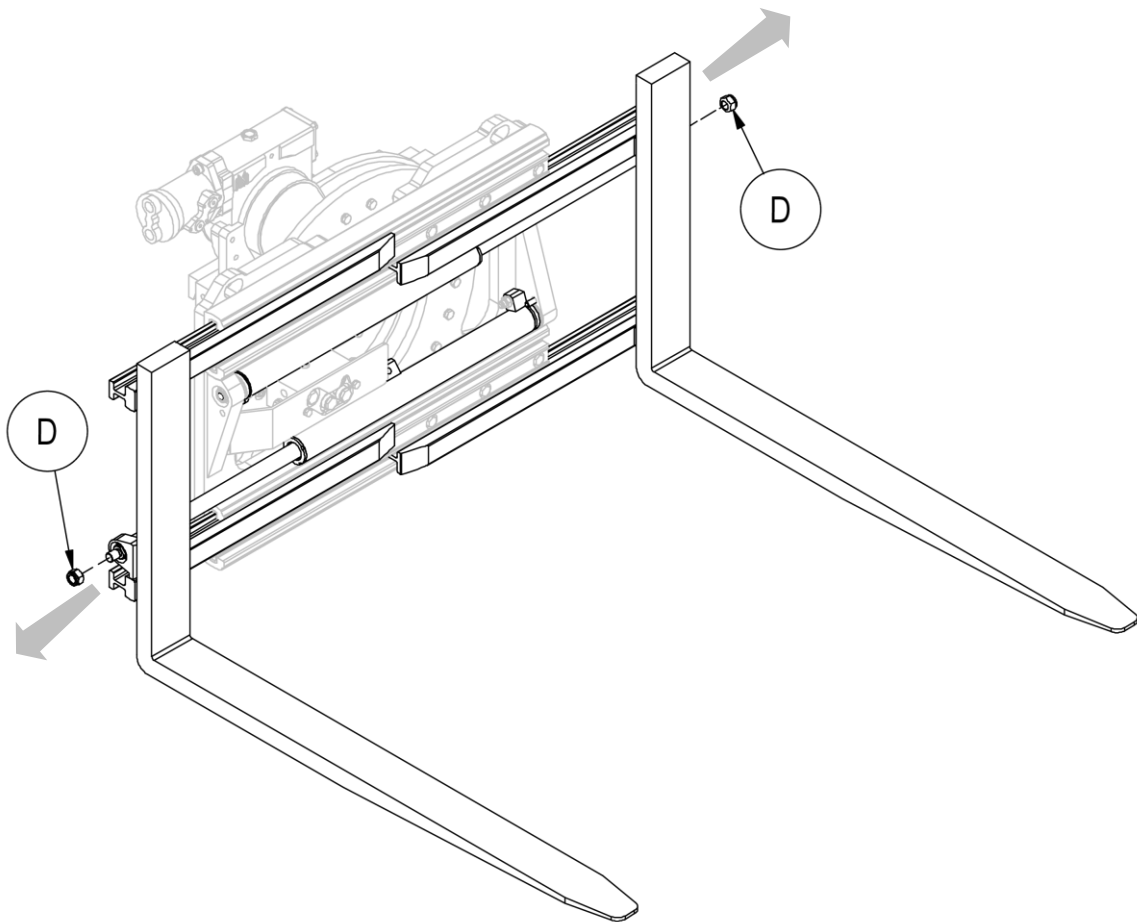

Figure 30
3. Remove the nuts **D** that secure the cylinders to the forks (see *Figure 30*).